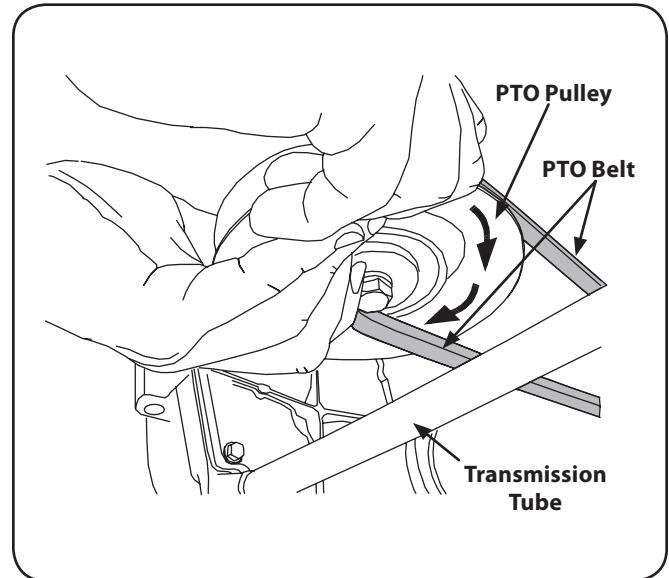

Figure 7-4
- While still holding the belt downward, continue turning the PTO pulley until the belt is rolled off the pulley. Refer to Fig. 7-4.
4. Pull the right side of the belt rearward and place the narrow V side of the belt into the PTO pulley. See Fig. 7-4.
5. While holding the belt and pulley together, rotate the pulley to the left (See Fig. 7-4). Continue holding and rotating the pulley and belt until the belt is fully rolled into the PTO pulley.